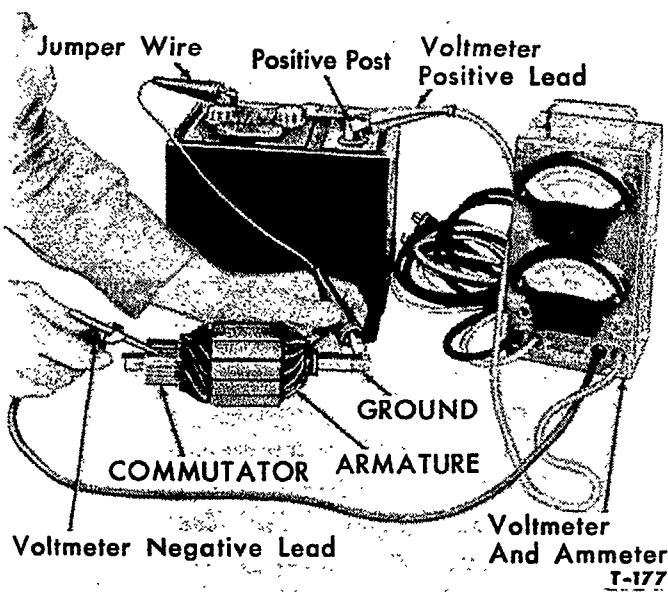

Figure 10—Checking Armature for Grounded Circuit
2. Check the armature for a grounded circuit by connecting a voltmeter between the battery negative terminal (positive terminal 12-volt systems) and generator commutator. Connect a jumper lead from the other battery post to the armature core or shaft as shown in Figure 10. Contact each commutator segment with the voltmeter lead. If voltage is indicated on the voltmeter lead, a grounded circuit exists.